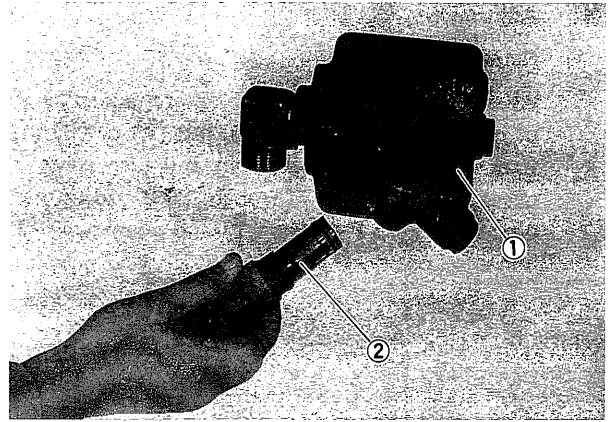

Fig. 19
- 5) Remove charge relief valve (2) from valve body (1). (Fig. 19)